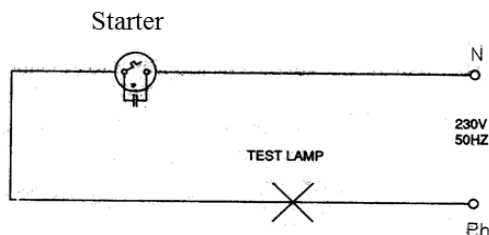

Fig. 3 Testing of Starter
2. Check the starter by using test lamp as shown in figure 3 and record the result in table 2.